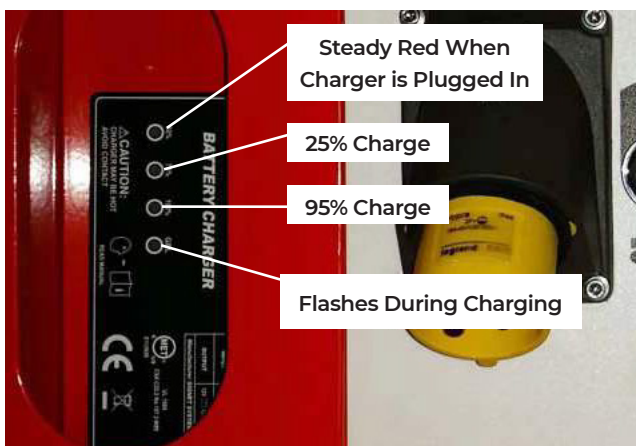

Figure 7 - Battery Charge Indicator
- 6 Visually inspect the battery charge indicator for proper charging rate. The LED's are visible on the left side of the lower controls. Refer to Figure 7 for the function of each LED. The battery should be fully charged when the 95% LED is on.